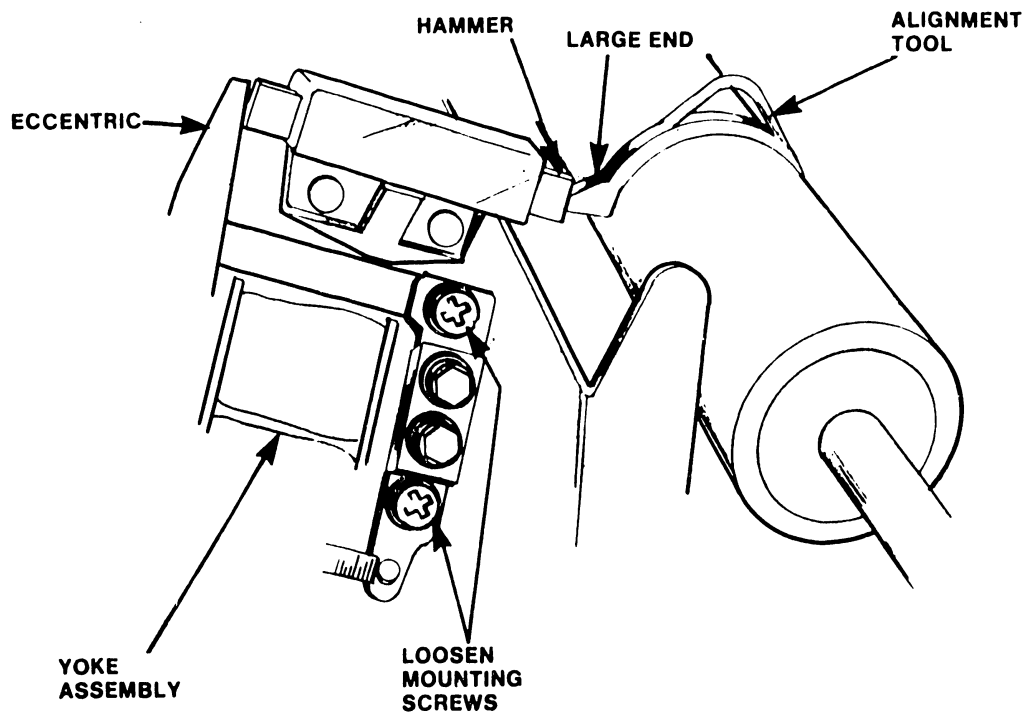

FIGURE 5-9 HAMMER-TO-PLATEN ADJUSTMENT
1. With the large end of the alignment tool on the platen in line with the hammer, loosen the two screws that mount the yoke assembly to the motor (see Figure 5-9).